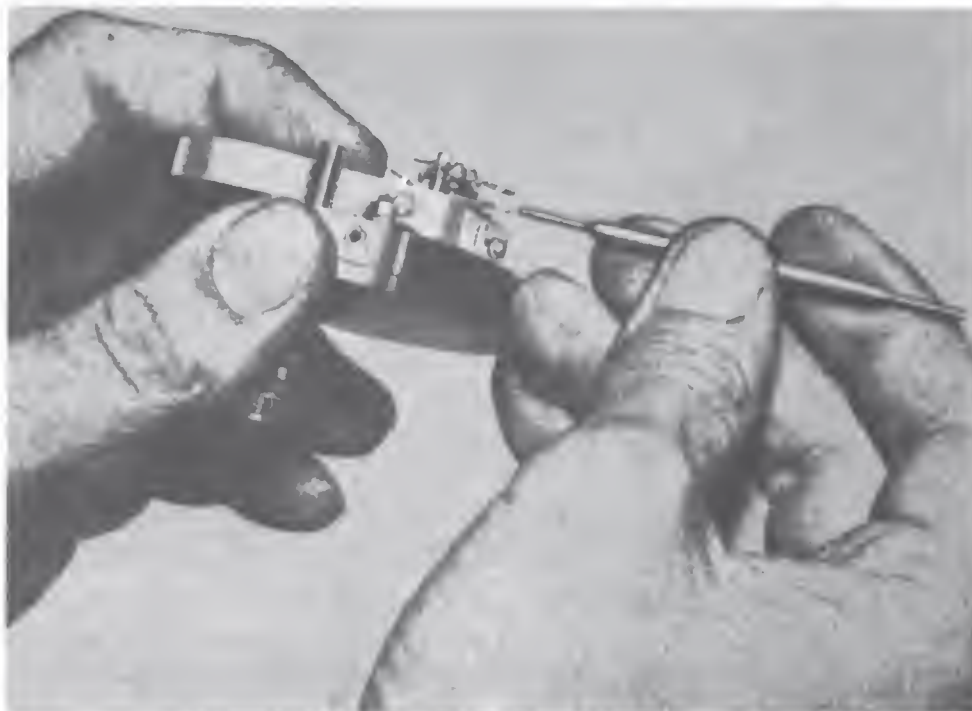

Figure 302. — Adjusting a balance weight.
*Balance weight adjustment.* — The balance weights (the split thread, wire-wound or lock-nut weights on the pointer shaft) of the moving element are essential for accurate scale readings. When the meter is in normal position, the pointer must be resting at zero. If not, several steps must be taken to make this adjustment. First, check the balance weights to see if the pointer rests at zero when the meter is in normal position, but moves off zero as the meter is turned clockwise through 360 degrees. If the pointer moves off zero during this motion, then the moving element is out of balance. In such a case, check the position of the pointer at each quarter turn for its maximum deviation from the zero position, and balance the moving element each time by adjusting the balance weight until the pointer is restored to the zero position. The correct working position for making this balance weight adjustment is illustrated in figure 302. The correct size balance wrench should always be used for adjusting the split-thread weight. See that weights of this type are compressed just enough so that, properly adjusted, they will grip the shaft tightly enough to prevent shifting but not tightly enough to cut a thread into the shaft.